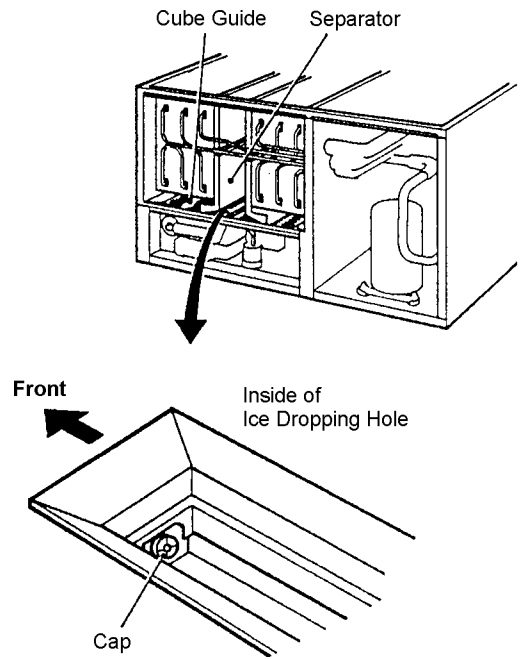

Fig. 3
- 3) Drain the Water Tank by removing the Insulation Panel and the Cap located on the front bottom part of the Ice Dropping Hole. See Fig. 3.
- 5) Drain the Water Tank by removing the Cap located on the front bottom part of the Ice Dropping Hole. See Fig. 3.
- 27) Drain the Water Tank by removing the Cap located on the front bottom part of the Ice Dropping Hole. See Fig. 3.